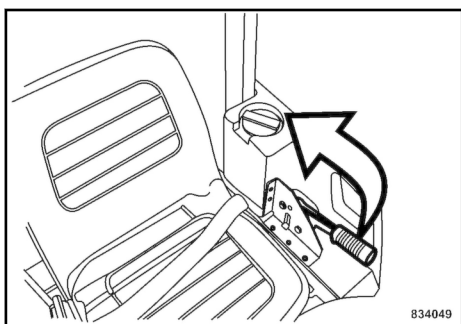

Fig. 121
2. Pull up the parking brake lever. ↪ Fig. 121.